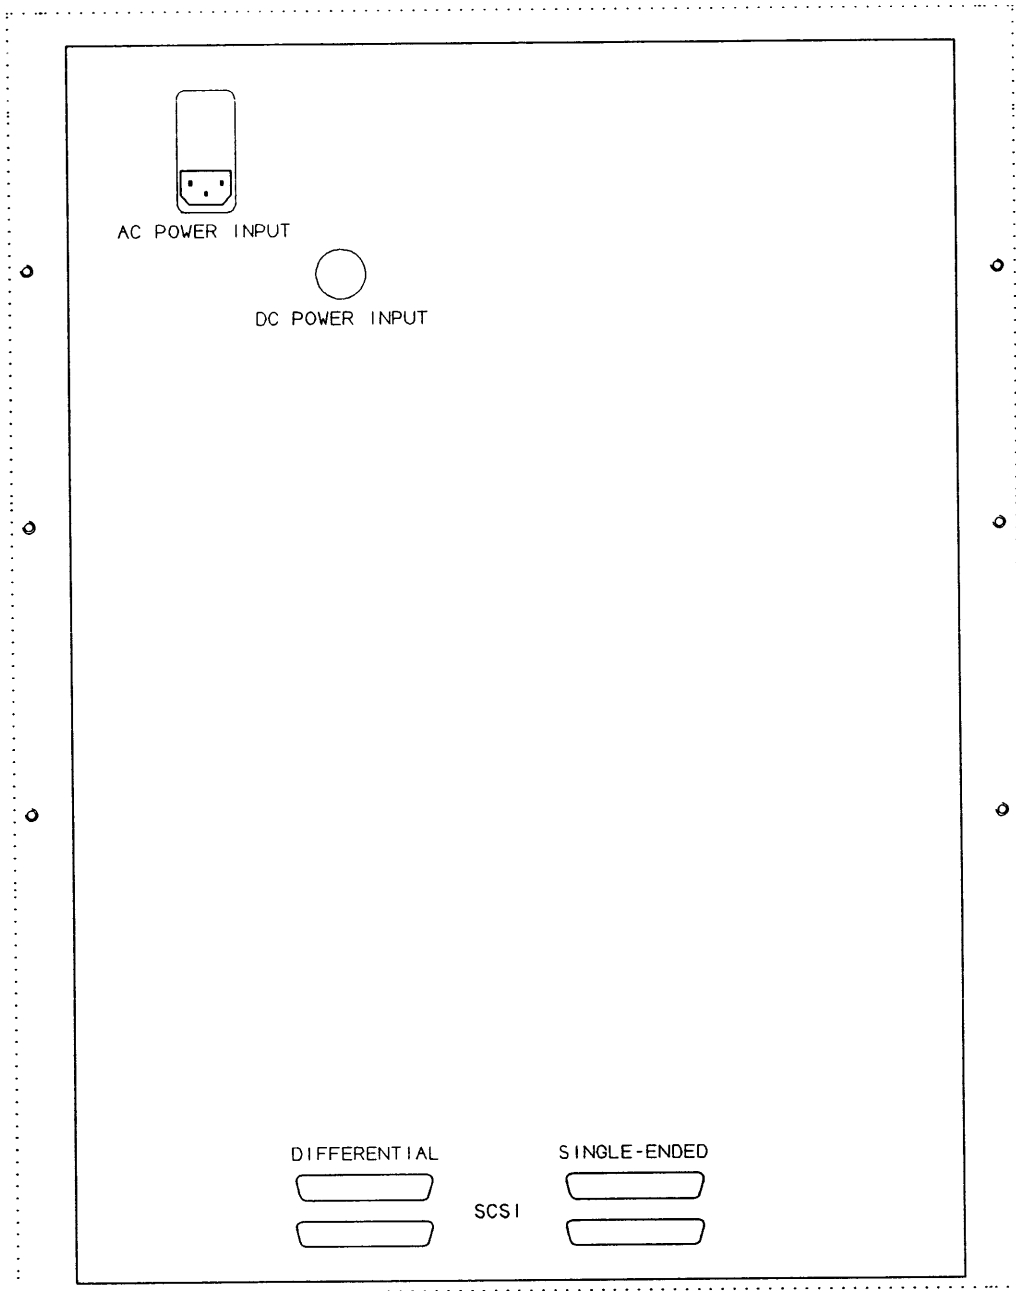

Figure 2.6 CONNECTOR LOCATIONS, SCSI INTERFACES
- ii) Connect the interface cables, the SCSI interface connections are shown in Figure 2.6.